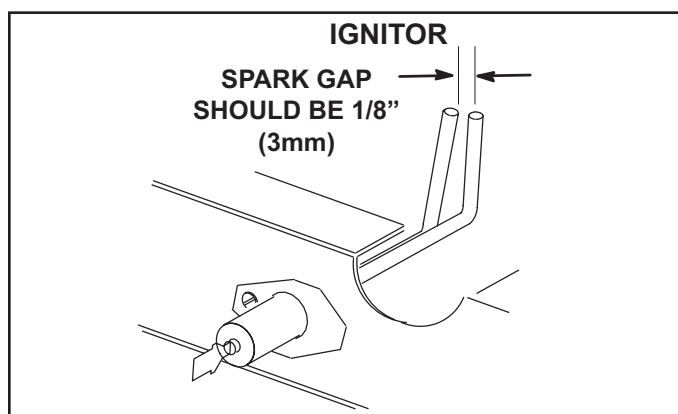

FIGURE 34
- 4 - Locate the ignitor under the left burners. Check ignitor spark gap with appropriately sized twist drills or feeler gauges. See FIGURE 34.